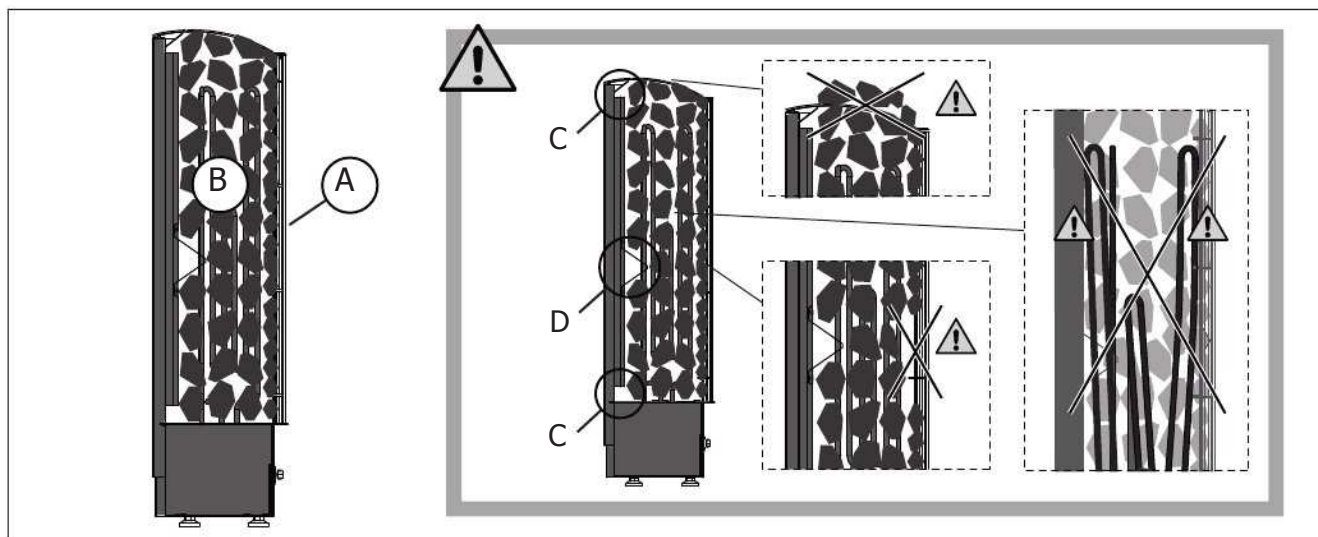

Figure 1. Piling of the sauna stones
1.1. Piling of the Sauna Stones (figure 1)
- Fig. 1, C: Do not block the lower or upper end of the air duct.
- Fig. 1, D: Do not put stones inside the bracket.